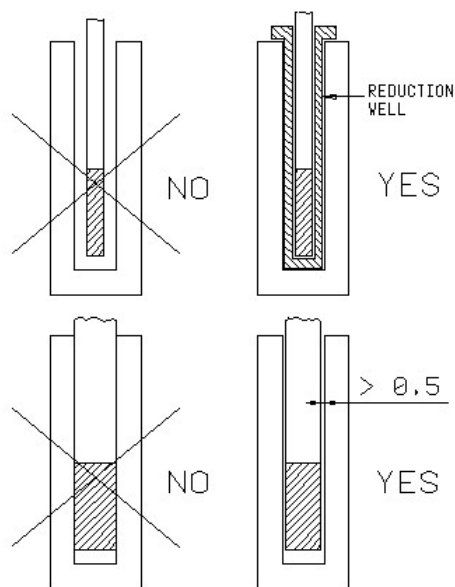

Fig.1
3. at least 0.5mm bigger than the diameter of the probe for diameter of the probe up to 8mm . If this is not the case use the reduction wells with the above-mentioned tolerances (fig.1).